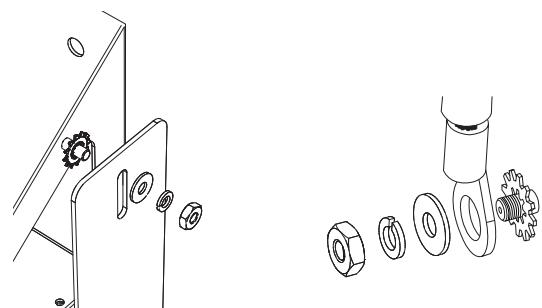

Fig. 7-2, SPI Hardware Stack Up
- Install the SPI to the SPI bracket and torque to 130 in-lbs (14.5 Nm). Follow the proper stack-up as shown in Fig. 7-2 and mount the SPI bracket onto either of the #10-32 studs  in Fig. 7-1, and tighten the supplied #10-32 nut, lock washer, and flat washer.